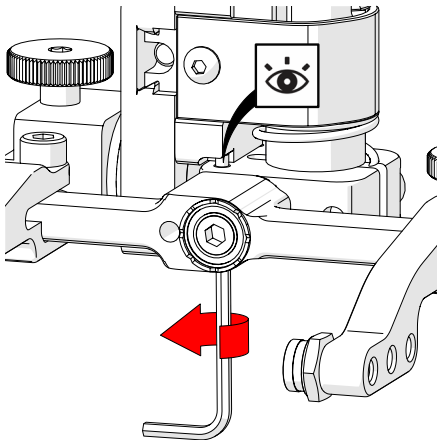

Fig. 84 - Raise opposite 90° stop post
8. Raise the stop post on the opposite side until the side of the post contacts the 90° stop point on the probe holder's base (Fig. 84).